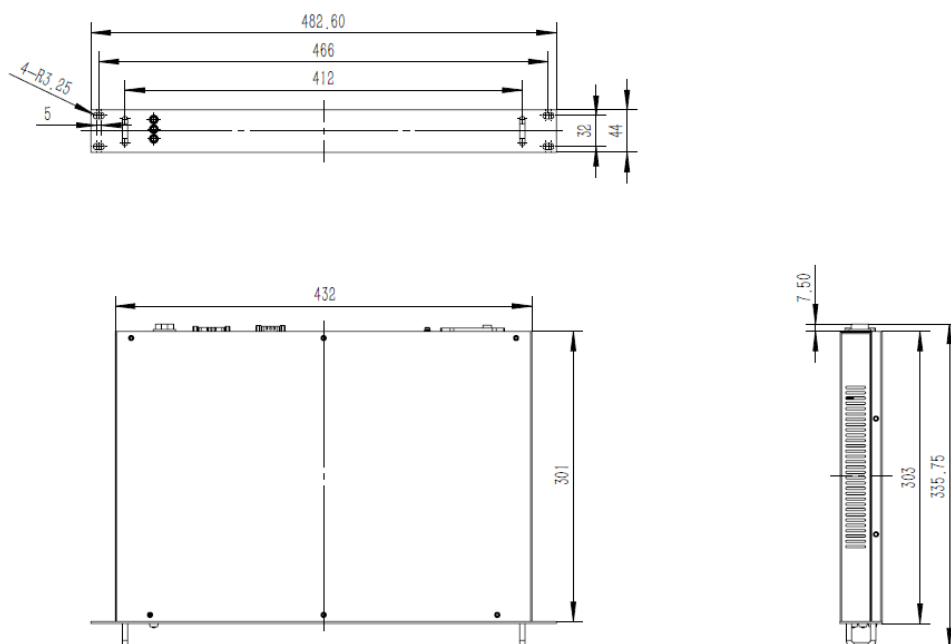

Figure 1: Host Appearance Dimensions
7.1. Host and Probe Appearance and Dimensions (See Figures 1 and 2, unit: mm)